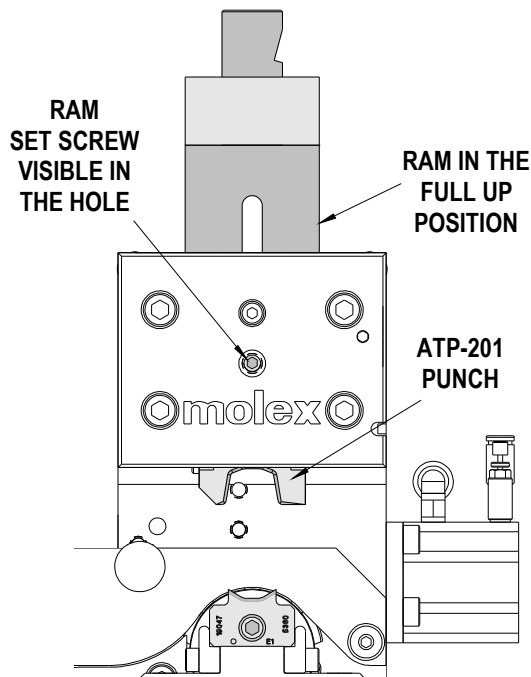

Figure 2-8
- To remove the punch assembly, use a 3mm hex wrench to loosen the set screw on the front of the ram. This screw is accessible through the module's front cover. See Figure 2-8.